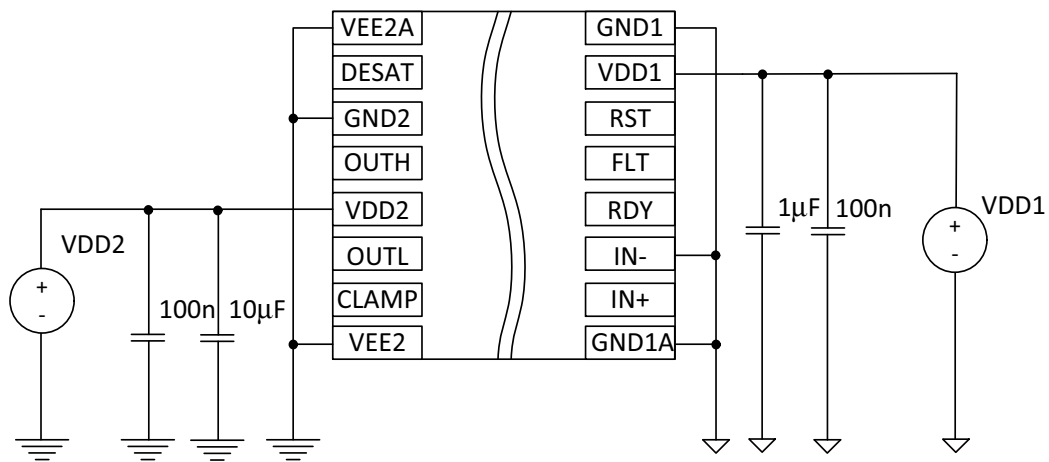

Figure 25. Unipolar Power Supply
- In Unipolar power supply the driver is typically supplied with a positive voltage of 15 V at VDD2. Dynamic turn on throughout the internal IGBT input capacitance could be prevented by Active Miller Clamp function. CLAMP output should be directly connected to IGBT gate (Figure 25).